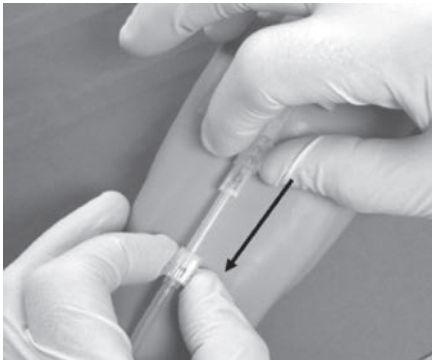

Figure 3
19. Withdrawal of Needle (see Figure 3).